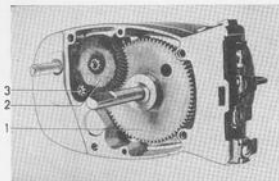

Fig. 3-146. Drive housing
7. Pull the intermediate drive and drive on the output shaft straight out, see Fig. 3-146. Note the washer on the top side of the output shaft drive and flat washer underneath.
2. Place the large drive with the output shaft and intermediate drive in position in the drive housing, see Fig. 3-146, (do not forget the two washers) and fit the cover.